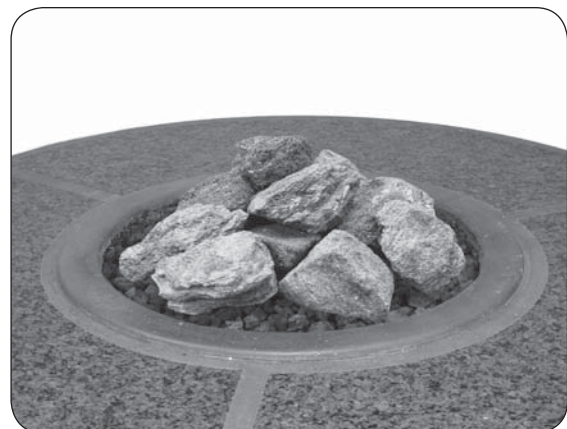

Fig. 20-2 Volcanic stone option
2. Pour the volcanic stone evenly into the burner area (see Fig. 20-2). The stones may form a mound. **Store any excess media in a safe location.**